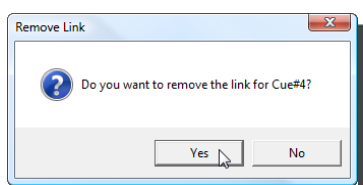

Figure 250
2. Click **Yes** in the **Remove Link** confirmation dialog box (Figure 250).